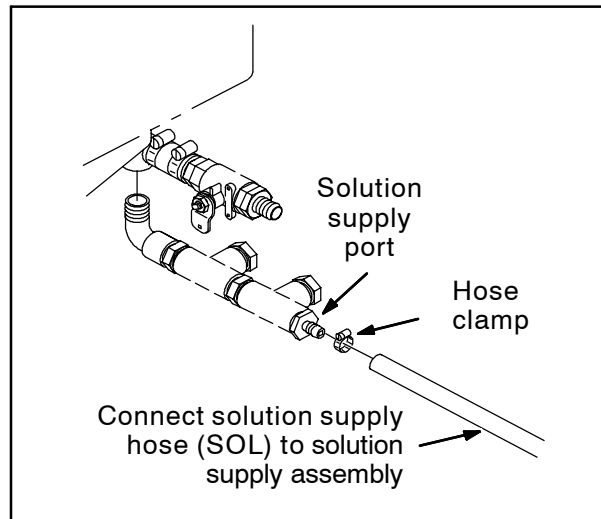

FIG. 5
7. Route the hose labeled SOL to the solution supply assembly and use a hose clamp to secure the hose to the solution supply port. Refer to Fig. 5.